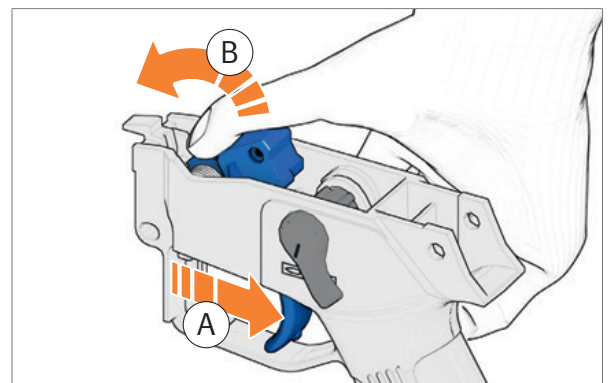

Fig. 15: Slowly guide hammer forwards
3. Hold hammer (*Fig. 15*).
4. Pull the trigger and hold it (*Fig. 15*).
5. Guide the hammer slowly forwards (*Fig. 15*).